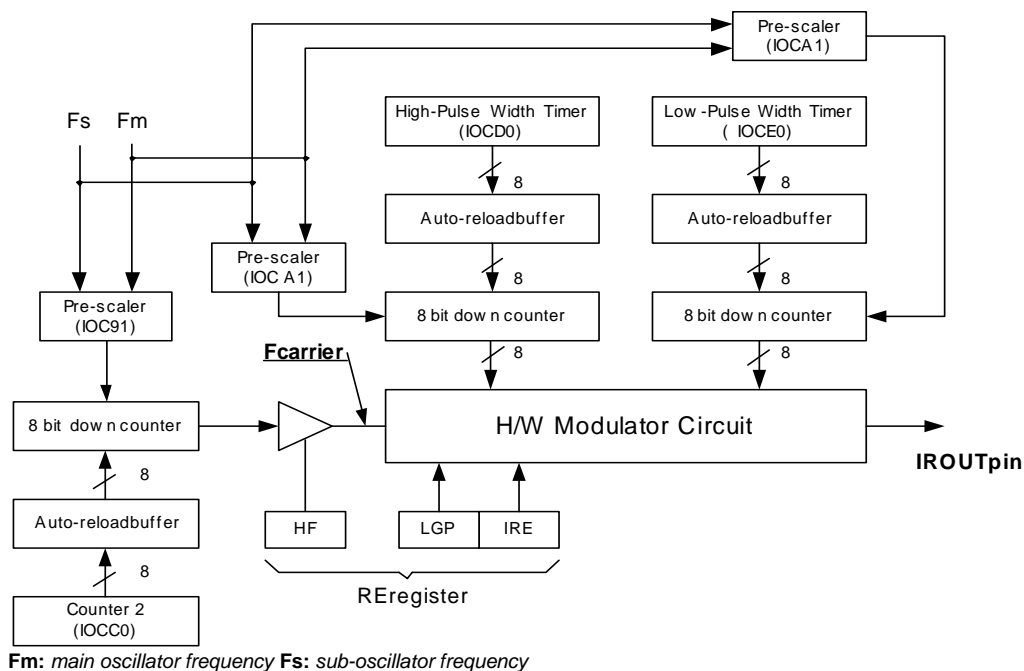

Fig. 6-20 IR/PWM System Block Diagram
This LSI can output infrared carrier in user-friendly or in PWM standard waveform. The IR and PWM waveform generated functions include an 8-bit down count timer/counter, high-pulse width timer, low-pulse width timer, and IR control register. The IR system block diagram is shown in Fig. 6-20. The IROUT pin waveform is determined by IR control register (RE), IOC90 (Counters 1 and 2 control register), IOCA0 (high-pulse width timer, low-pulse width timer control register), IOCC0 (Counter 2 preset), IOCD0 (high-pulse width timer preset register), and IOCE0 (low-pulse width timer preset register). Details on  $F_{carrier}$ , high-pulse time, and low pulse time are explained as follows: